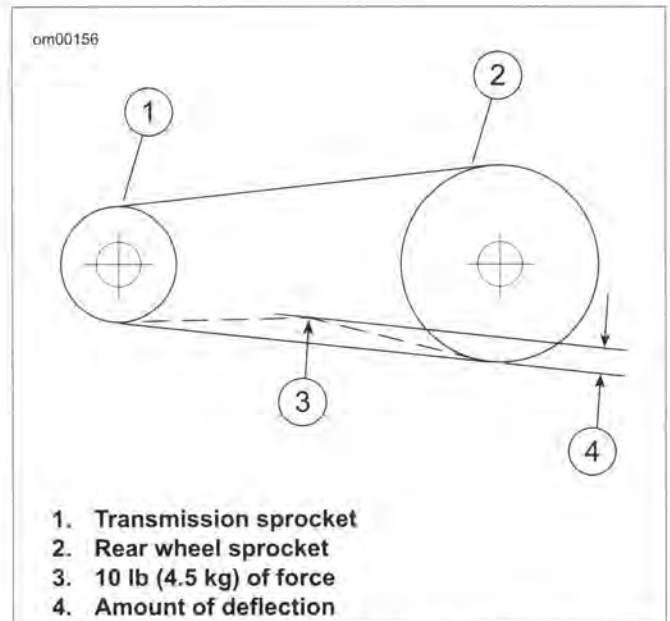

Figure 1-25. Checking Belt Deflection
- b. **All other models:** See Figure 1-25. Measure amount of deflection (4) while holding gauge steady.